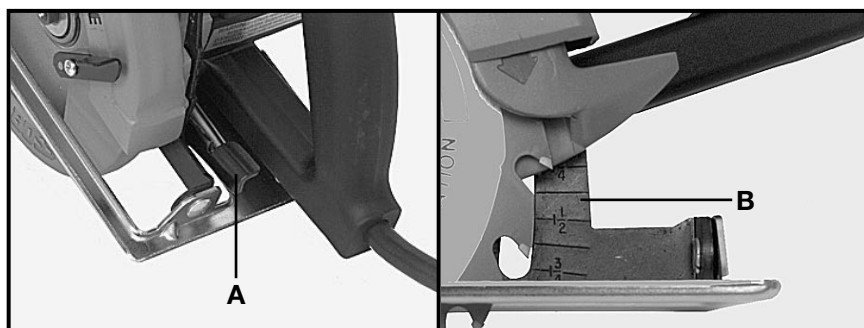

Fig. 4
2. Lift up depth adjusting locking lever (A), Fig. 4, at rear of saw.
**NOTE:** The depth adjusting segment (B) Fig. 4 is marked in  $\frac{1}{8}$ " increments for convenience in setting depth of cut. Aligning required marking with lower edge of housing will produce approximate depth of cut desired.